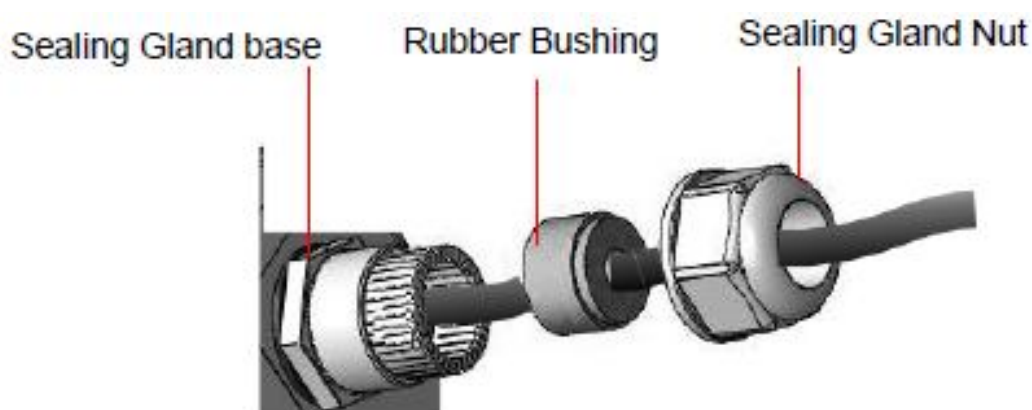

Figure 3 : Cable Insertion
- 2 Connect the cable (see Figure 3):